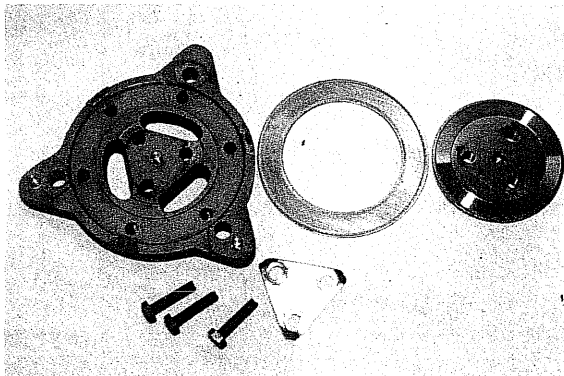

**Fig. 32 Valve Plate**
- b) Remove the cage retainer bolts and lift off the cage. The pins fit tightly so the cage should be raised vertically taking care not to bend the pins (Fig. 32).